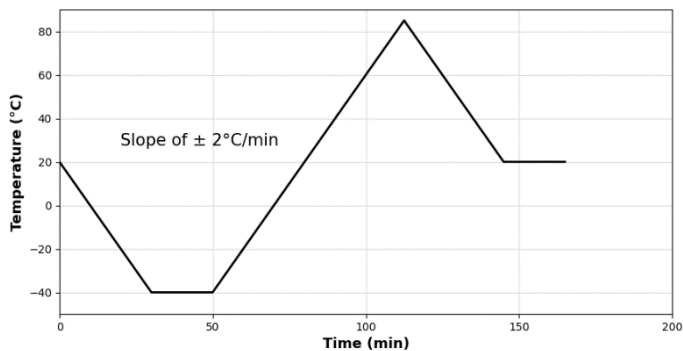

Figure 24: Recommended Temperature profile for calibration
2. Place the sensor on a rate table in a thermal chamber and implement temperature profile according to Figure 24¹